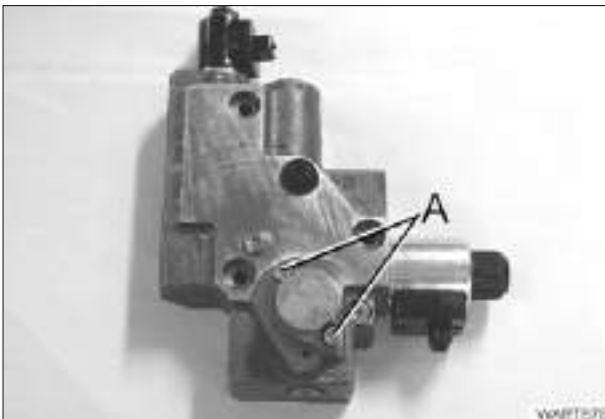

Fig.48
- Change the fine filter (A).
- Screw in the threaded connection (see CARE AND MAINTENANCE Fig. 48 /A) and tighten to 5.5 ± 1.8 Nm.